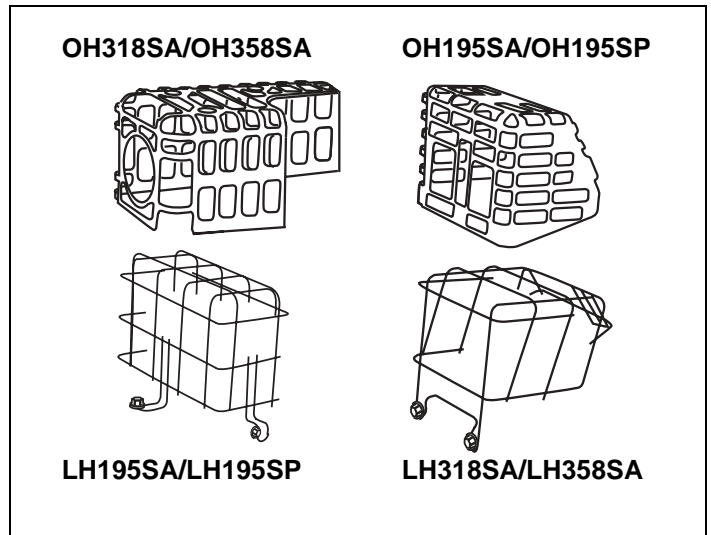

Figure 2. Muffler Guards Available
- To avoid severe burns on contact, STAY AWAY from hot areas of engine. DO NOT operate the engine without the muffler guard in place, if equipped. TecumsehPower Company offers a muffler guard for all 4-Cycle Snow King Engines. Consult your local Authorized TecumsehPower Servicing Dealer or call 1-800-558-5402 for additional information. See Figure 2.